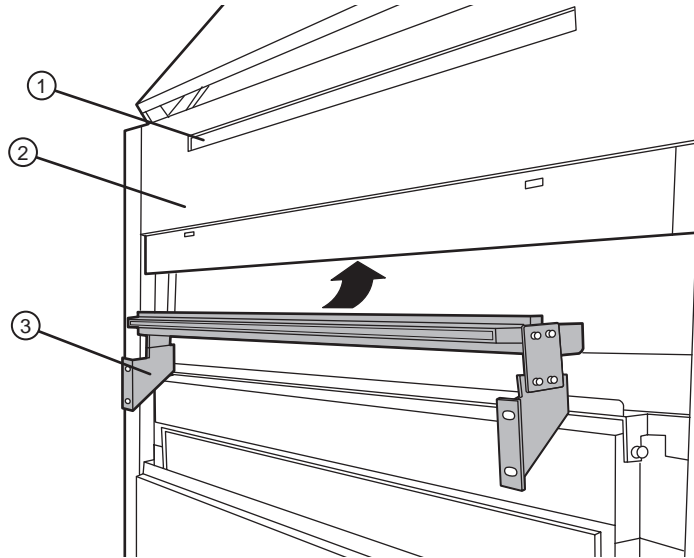
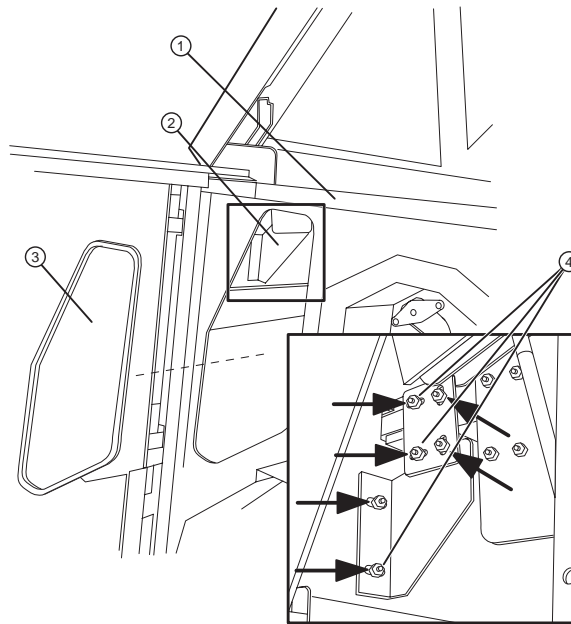

Figure 1-10 Inserting the extension platen at the rear of the imagesetter.
Figure 1-11 Attaching the extension platen to the imagesetter.
1. Remove the back panel from the Imagesetter. Refer to Figure 1-10.
3. Attach the left and right side plates to the extension platen using the four (4) nuts and bolts provided. Refer to Figure 1-10 and Figure 1-11.
- ①—Exit platen opening. ②—Imagesetter rear with back panel removed.
③—Extension platen assembly.
4. Attach the left and right brackets to the side plates using the nuts provided. Refer to Figure 1-10 and Figure 1-11.
7. Insert the extension platen through the opening and position the platen at the inside rear of the imagesetter. Refer to Figure 1-10 and Figure 1-11.
9. Remove the imagesetter plastic access panels (left and right) to get at the studs and brackets. Attach the brackets left and right to the studs using the two (2) nuts provided. Refer to Figure 1-11.
- ①—Imagesetter. ②—Alignment hole on the extension platen.
③—One of two alignment pins provided.
13. Leaving the platen alignment pins in place, tighten the four (4) nuts (each end) on the brackets attached to the extension platen. Refer to Figure 1-11.